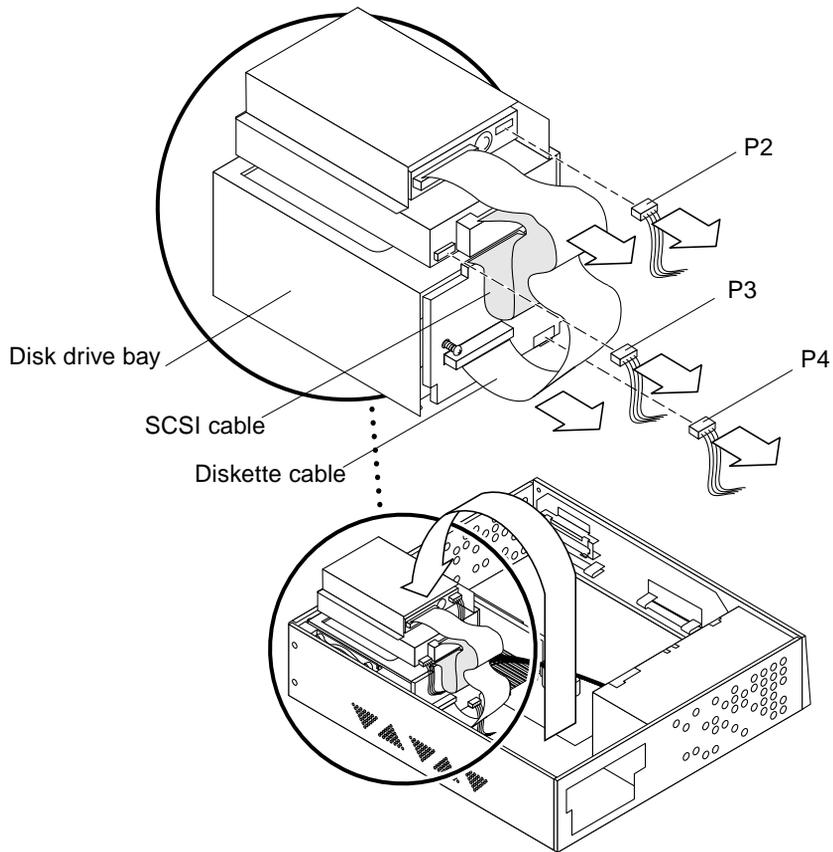

FIGURE 2-10 Placing the Drive Bracket on Top of the Disk Drive
4. Push the drive bracket toward the disk drive bay and gently flip it over. Place the drive bracket on top of the disk drive bay (FIGURE 2-10).
6. Disconnect the SCSI cable from the CD-ROM drive (FIGURE 2-10).